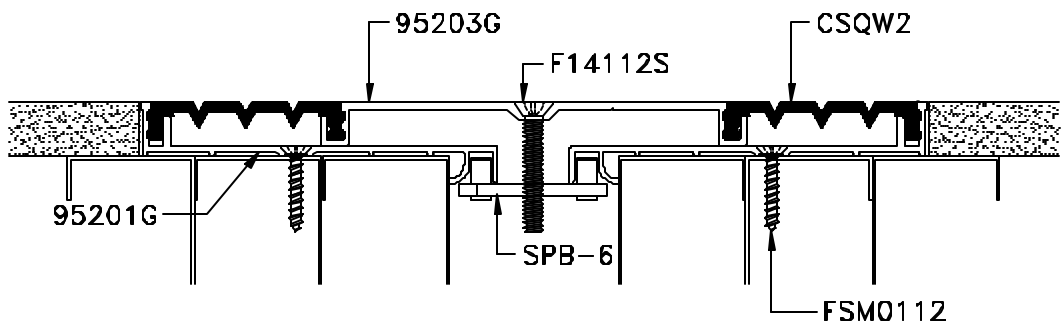
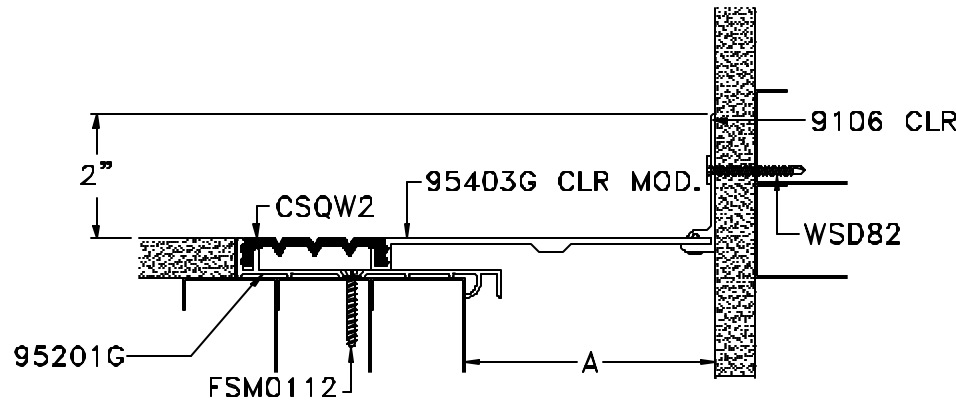

Figure 15
Figure 16
**STEP 30.** Insert each elastomeric seal tab into its corresponding channel in the base member and in the cover plate (see Figure 15 and Figure 16). Ensure that each seal's tabs are inserted completely into their channels.